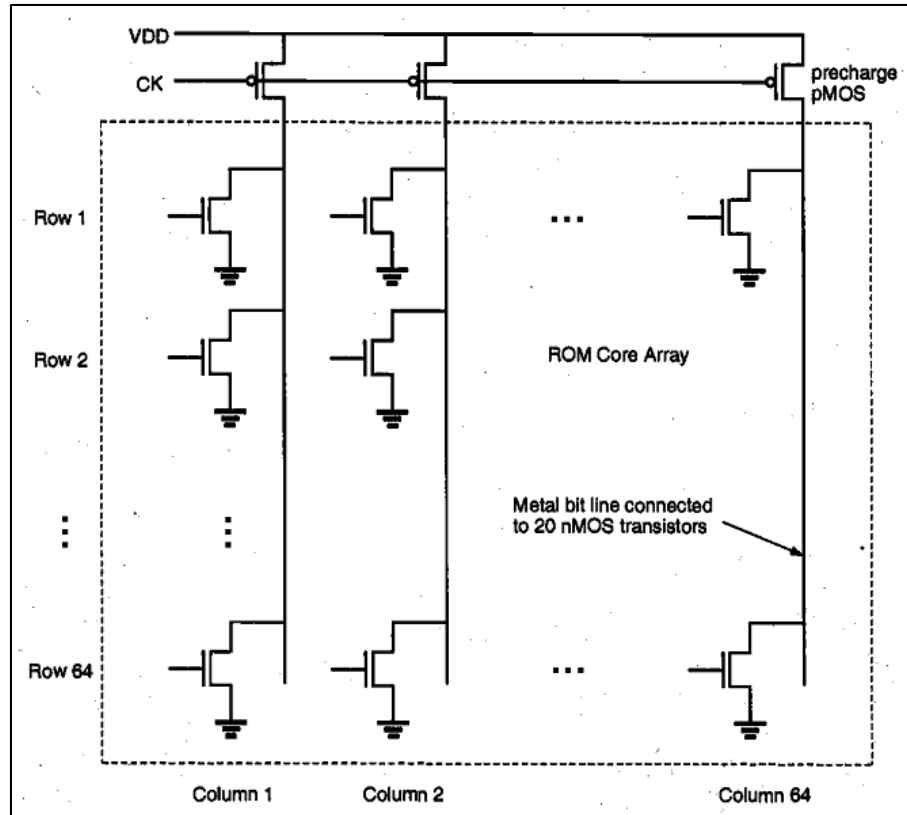

Figure 4
- 3) A dynamic CMOS Read Only Memory (ROM) has been designed with a core array consisting of 64 rows with a pitch of 12  $\mu\text{m}$  and 64 columns with a pitch of 10  $\mu\text{m}$ , as shown on Figure 4. Each column is pre-charged to 5 V by a PMOS transistor during the interval of zero clock phase and then is pulled down after the clock signal switches to 5 V by one or more NMOS transistors (i.e., NOR implementation) with high gate inputs on the appropriate rows. All of the NMOS transistors have channel widths  $W = 4 \mu\text{m}$  and source/drain lengths  $Y = 5 \mu\text{m}$ . As a designer, you are to determine the propagation delay time from a particular input (on row 64) going high to a particular bit-line output (on column 64) going low  $t_{pHL}$  between 50% points. Assume that the input signal to row 64 becomes valid-high only after the pre-charge operation is finished, as shown in the timing diagram. Also, assume that row 64 is running over 30 NMOS transistors and column 64 has 20 NMOS transistors connected to it. For delay calculation, assume that only one NMOS transistor is pulling down. Also assume that PMOS is strong enough to fully charge the pre-charging node during the pre-charge phase of the clock signal and to neglect its drain parasitic capacitance. Device parameters are given: